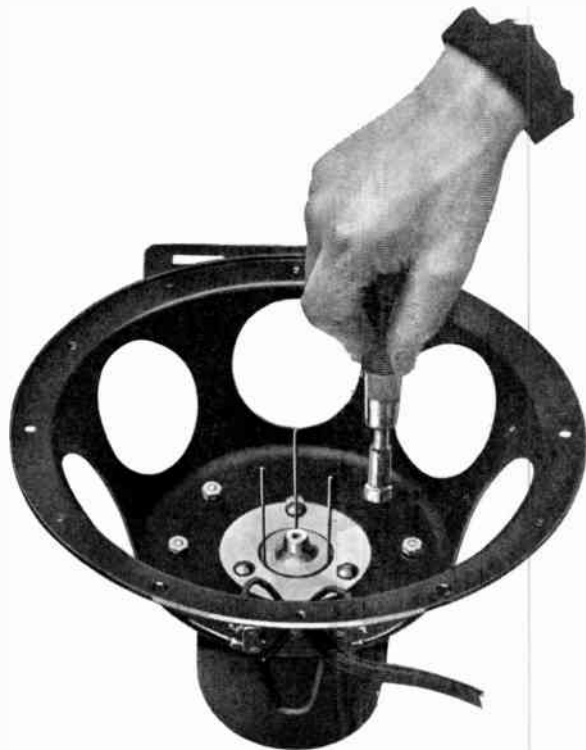

FIG. 254. (AT RIGHT.)
(2) Insert the three gauges in the magnet gap, as illustrated in Figure 254. Tighten the bolts very securely and then remove the gauges.